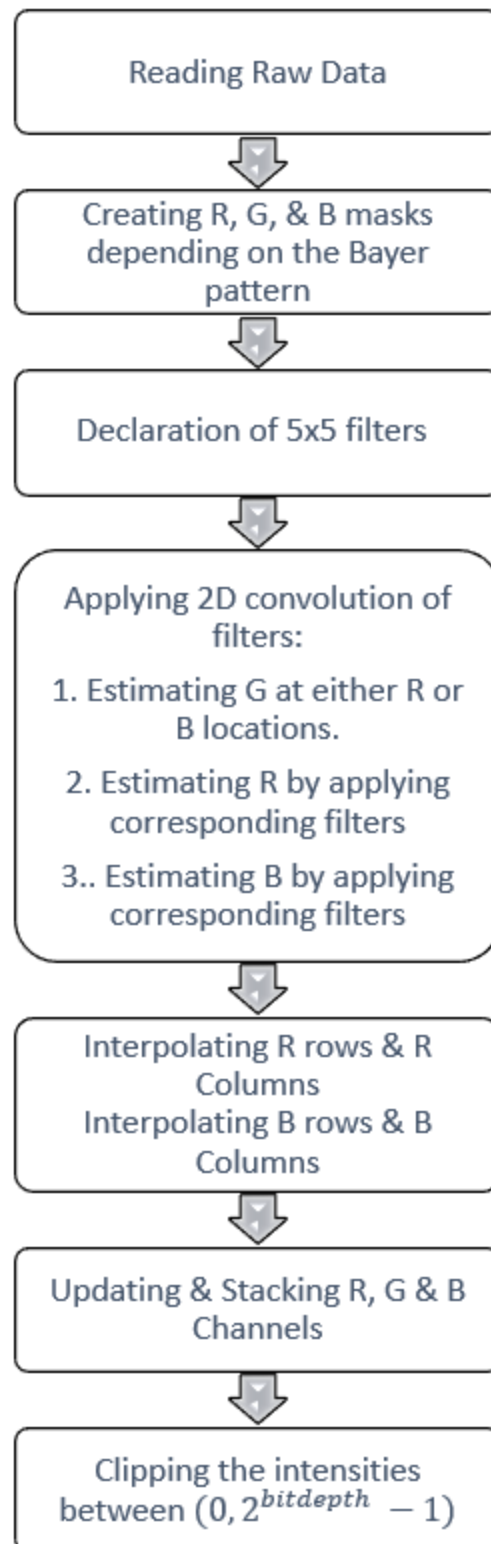
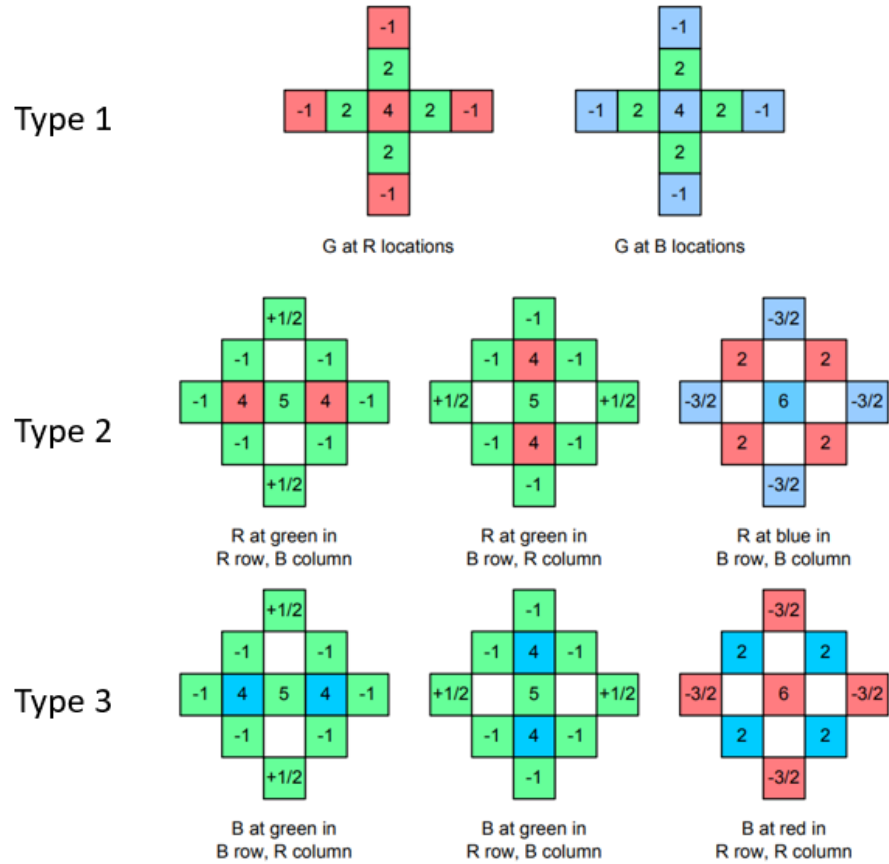

Figure 4: Flowchart for the Malwar He Cutler's Demosaicing Algorithm
Figure 5: Filter Coefficients for linear interpolation of R, G & B data.
After thorough analysis, Malvar-He-Cutler demosaicing algorithm was selected (shown in Figure 4). Image demosaicing, or demosaicing, is the interpolation problem of estimating complete color information for an image captured through a Color Filter Array (CFA), particularly using the Bayer pattern. Demosaicing is achieved by convolving the image with a set of linear filters. There are eight different filters shown in Figure 5 for interpolating the various color components at different locations.
1. On G channel, g pixels at r and b locations are estimated using the result of the convolution of filters from type 1 in Figure 5 with the raw image as shown below.
2. Convolve the raw image with each of the three types 2 filters shown in Figure 5 to produce three R estimated images.